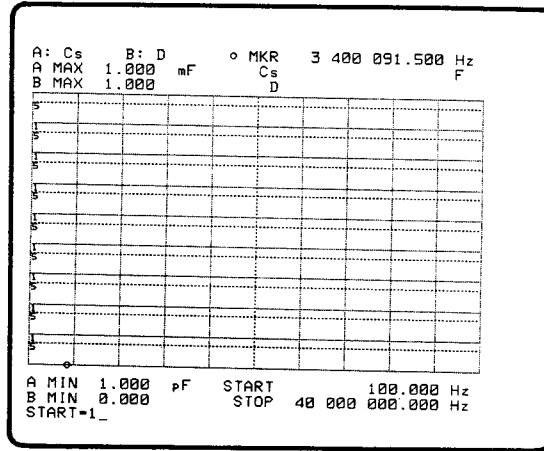

Figure 3-10. Sweep Start Value Entry
**ENTRY** section key. "START=1" will be displayed as shown in Figure 3-10.